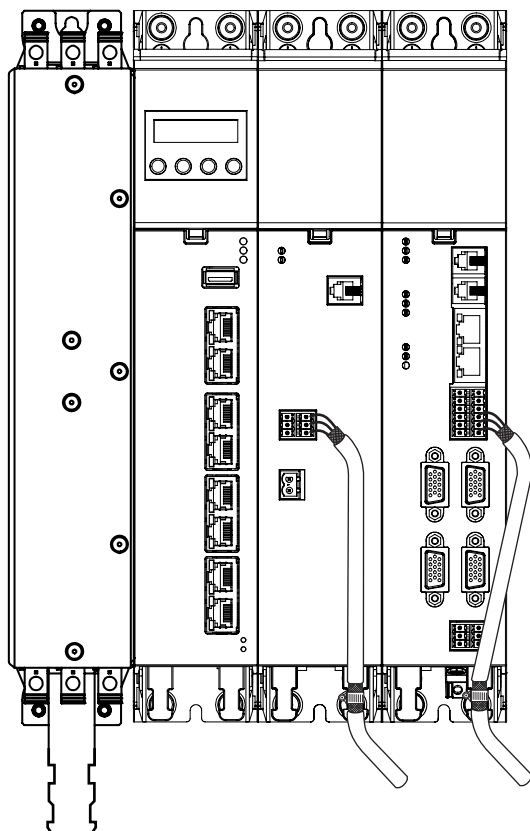

Figure 4.1 Example shield connection, control connections
- Do not strip back the cable shields too far and use the shield lugs on the related connectors for making the connection to the components, see Figure 4.1. Connect the other end of the cable shield to the PE rail (main earth) or the backing plate using a large area connection.